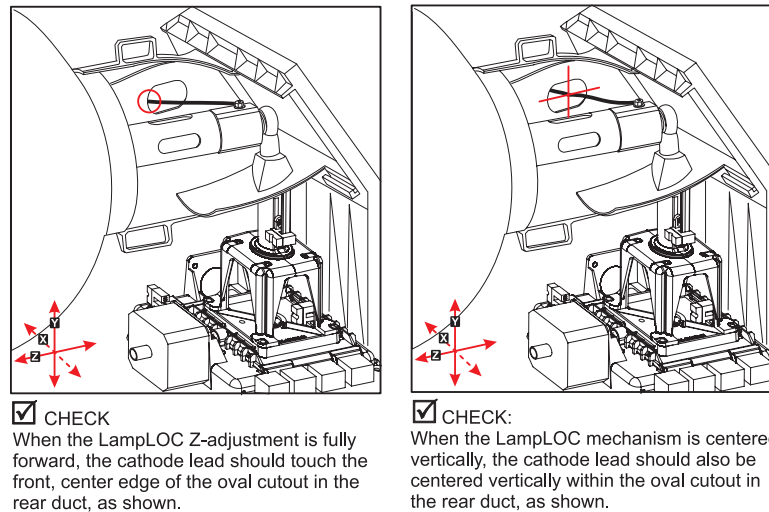

Figure 5-1 Check Position of the Cathode Lead
- Check the position of the cathode lead. (**Figure 5-1**) **UV danger. Qualified service technician only.**